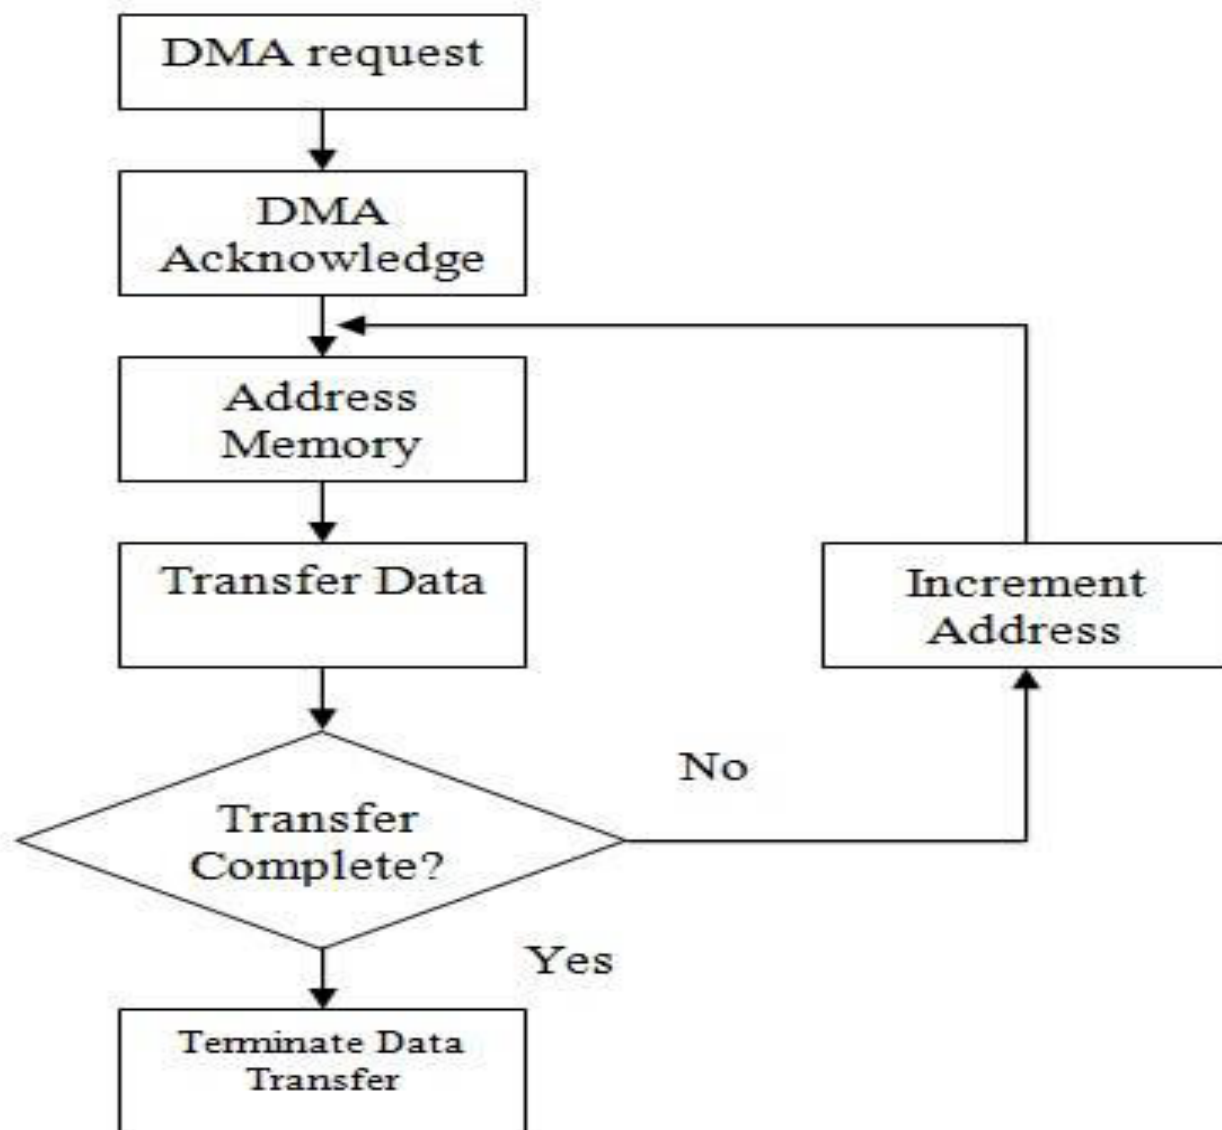

Fig 7.74 Sequence of Operation in Direct Memory Access
- The entire process is explained with the flowchart given in next slide figure 7.74.